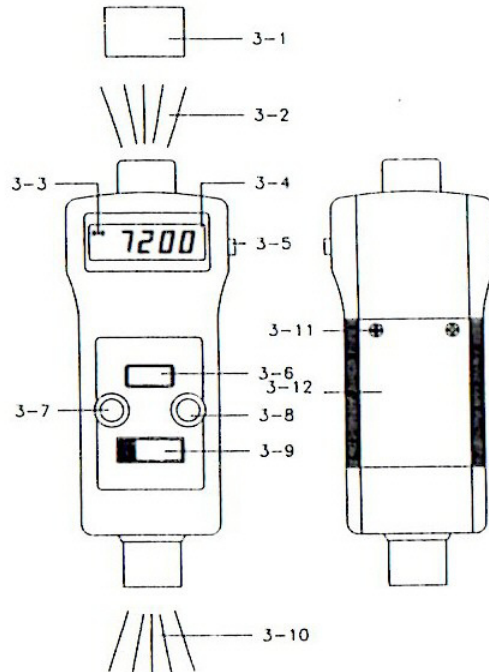

Fig. 1
Determine the " Function/Range Switch (3-9, Fig. 1) to
- b. Depress the " Measuring Button " (3-5, Fig. 1) & align the " Stroboscope Flash light beam " (3-10, Fig. 1) with the applied target.
- c. When checking speed, care must be taken to insure that the strobe is flashing in unison (one to one) with the object being monitored. Turn the " Fine Adjust Knob " (3-7, Fig. 1) or " Coarse Adjust Knob " (3-8, Fig. 1) until the mark look like " Stop " (synchronize).
- a) Select the " Function/Range Switch " (3-9, Fig. 1) to the " Photo RPM " position.
- b) Apply a reflecting mark to the object being measured. Depress the " Measuring Button " (3-5, Fig. 1) & align the " Tachometer Light Beam " (3-2, Fig. 1) with the applied target. Verify that the " Monitor Indicator " (3-3, Fig. 1) lights when the target pass through the light beam. Release the "Measuring Button" when the reading stabilizes (about 2 seconds).
- * *First push the " Memory Call Button " (3-6, Fig. 1) :
- b) Open the Battery Cover (3-11. Fig 1) by use the screwdriver to loss the screws and remove the batteries.